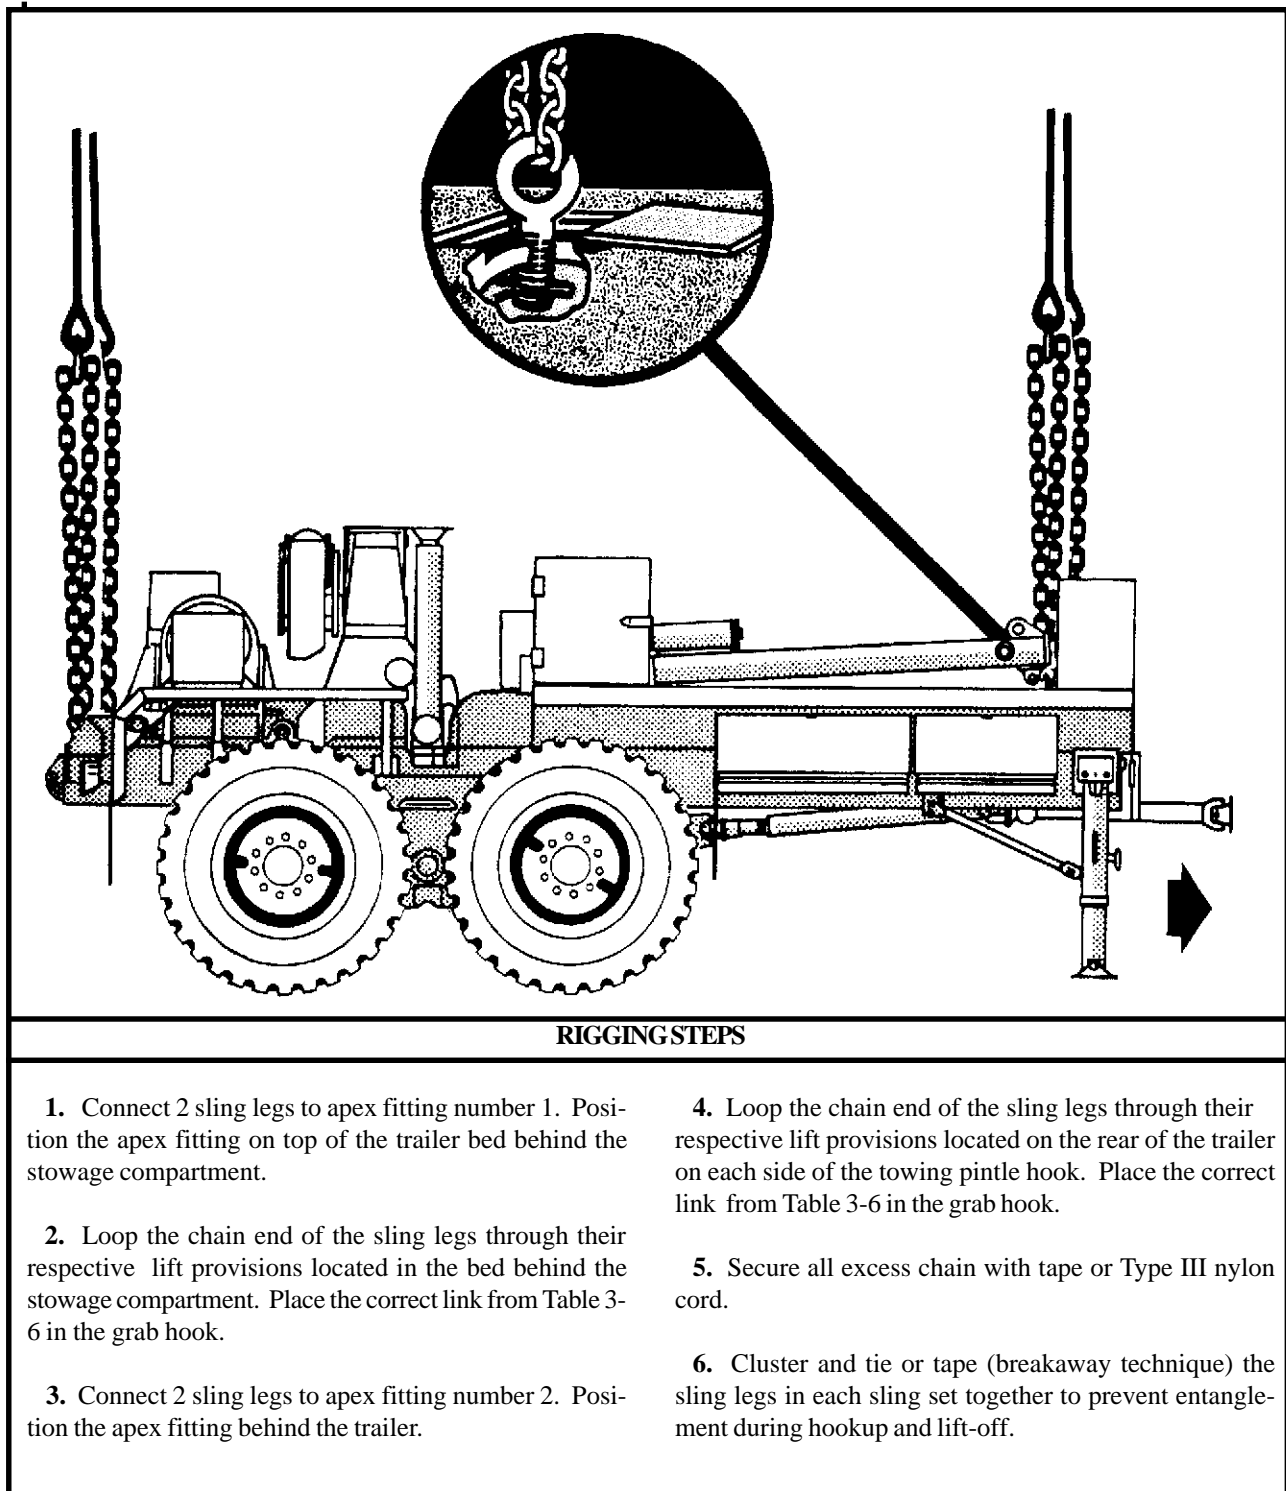

Figure 3-6. Mk15 Trailer, Wrecker/Recovery
(2) Rigging. Rig the load according to the steps in Figure 3-6.
(3) Hookup. The hookup teams stand on the bed of the trailer. The static wand person discharges the static electricity with the static wand. The forward hookup person places apex fitting 1 onto the forward cargo hook. The aft hookup person places apex fitting 2 onto the aft cargo hook. The hookup team then carefully dismounts the vehicle and remains close to the load as the helicopter removes slack from the sling legs. When successful hookup is assured, the hookup team quickly exits the area underneath the helicopter to the designated rendezvous point.
(4) Derigging. Derigging is the reverse of the preparation and rigging procedures in steps d (1) and d (2).